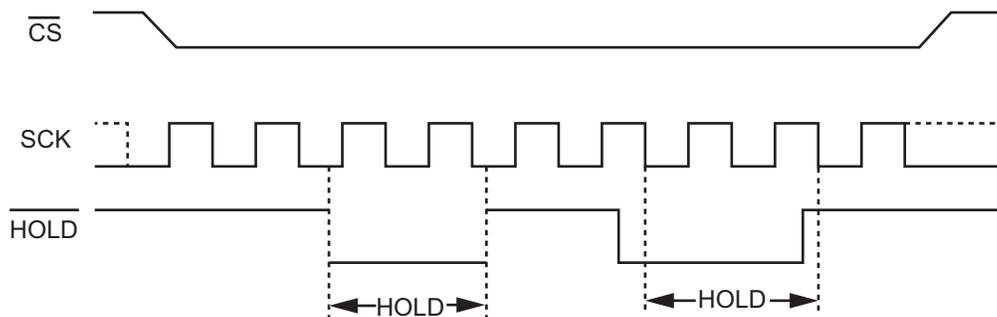

Figure 4: Hold Condition Activation
When  $QE=0$ ,  $HOLD/RST=0$ , the  $\overline{HOLD}$  signal is used to pause any serial communications with the device without resetting the clocking sequence, but does not stop the in-progress operation of write status register, programming, or erasing. During the Hold condition, the Serial Data Output (SO) is high impedance, and Serial Data Input (SI) and SCK are don't care. To enter the Hold condition, the device must be selected, with  $\overline{CS}$  low. Normally, the device is kept selected for the whole duration of the Hold condition. Deselecting the device while it is in the Hold condition, has the effect of resetting the state of the device, and this mechanism can be used if it is required to reset any processes that had been in progress. The Hold condition starts when the  $\overline{HOLD}$  signal is driven low at the same time as SCK already being low (Figure 4). The Hold condition ends when the  $\overline{HOLD}$  signal is driven high at the same time as Serial Clock (SCK) is low. Figure 4 also shows what happens if the rising and falling edges are not timed to coincide with SCK being low.